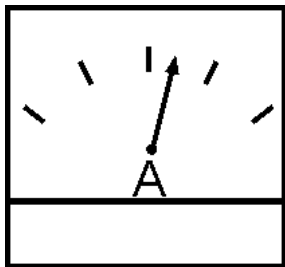

Figure 52. Ammeter (Load)
17. Observe the generator’s ammeter (Figure 52) and verify it reads the anticipated amount of current with respect to the load. The ammeter will only display a current reading if the load is in use.